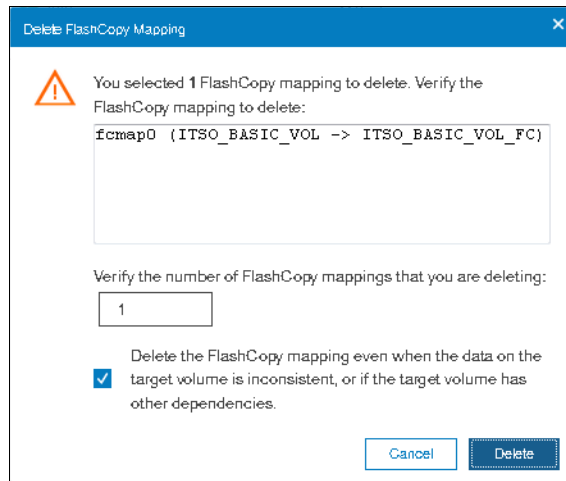

Figure 10-65 Delete FlashCopy Mapping
4. The Delete FlashCopy Mapping window opens, as shown in Figure 10-65 on page 511. In the “Verify the number of FlashCopy mappings that you are deleting” field, you must enter the number of volumes that you want to remove. This verification was added to help avoid deleting the wrong mappings.
Click **Delete**, as shown in Figure 10-65.